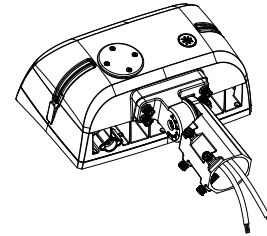

Figure 3-3
- Assemble the two Slip Fitter parts and fasten them with the Locking Bolts (Figure 3-3).